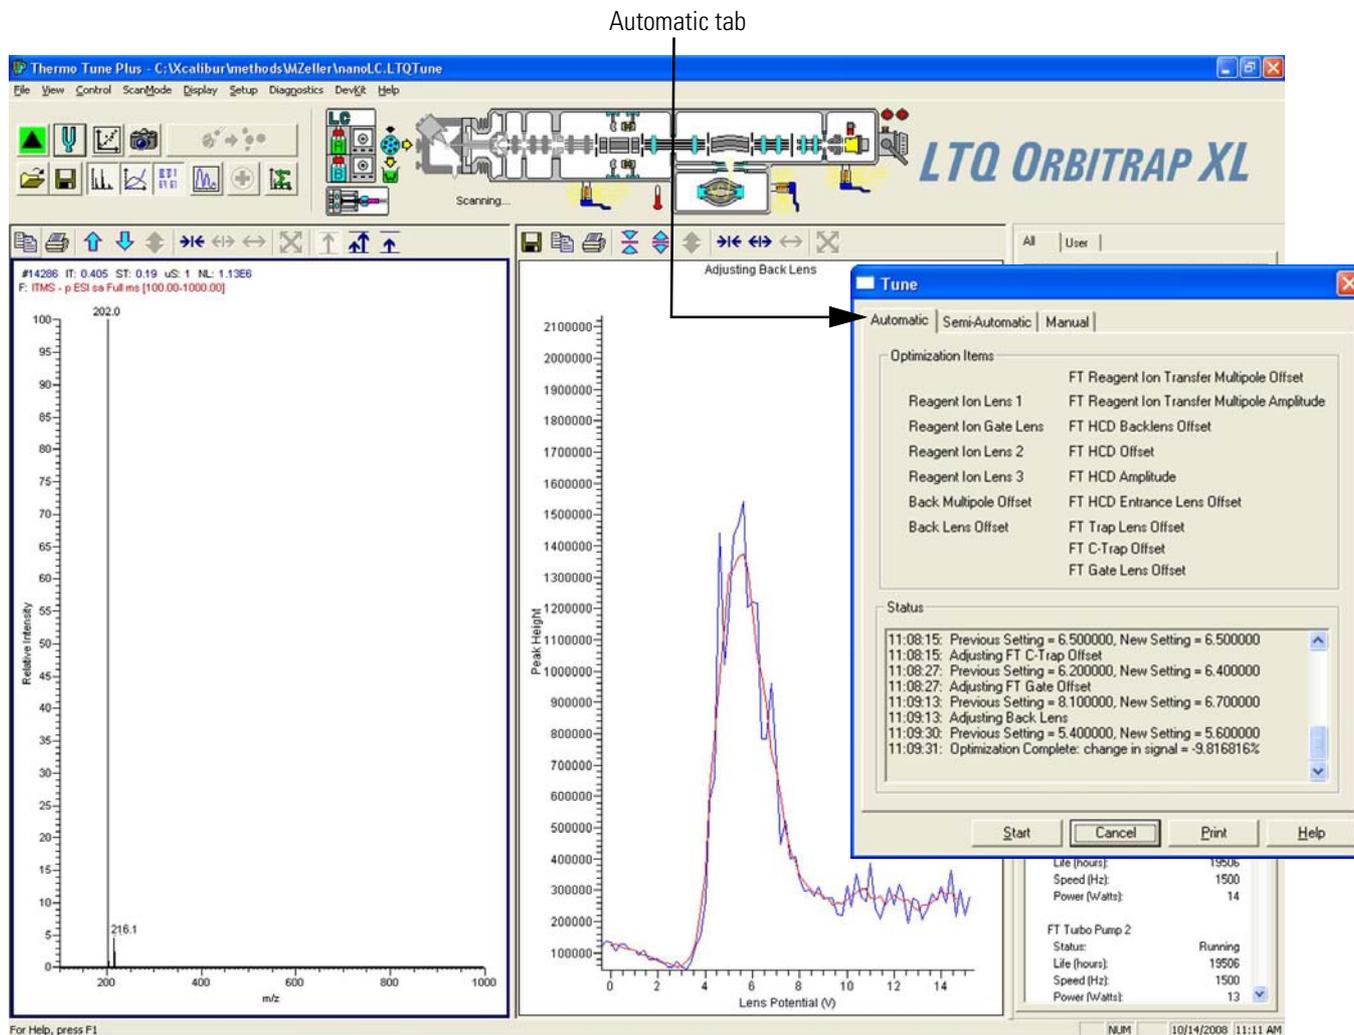

Figure 8-12. Tune Plus window with Automatic page of Tune dialog box displayed
5. The left side of the underlying view shows the Reagent Ion Spectra (fluoranthene). See Figure 8-12. The center view shows one of the